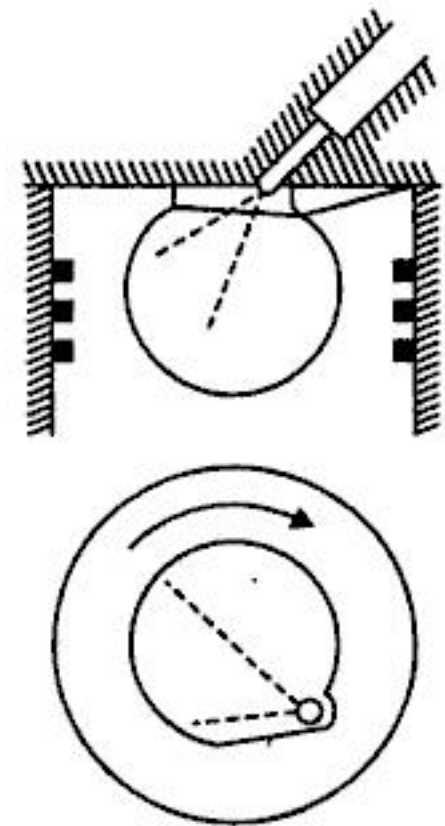

Fig. 6.15. M.A.N. 'M' combustion chamber.
- Fig. 6.15 shows a combustion chamber developed for small high speed engines. It differs from the other open combustion chamber engines in the respect that *fuel spray impinges tangentially on, and spreads over, the surface of a spherical space in the piston*. There is always some impingement of spray on the combustion chamber walls in all successful diesel engine designs. This impingement was not considered desirable till M.A.N. combustion system was experimented.